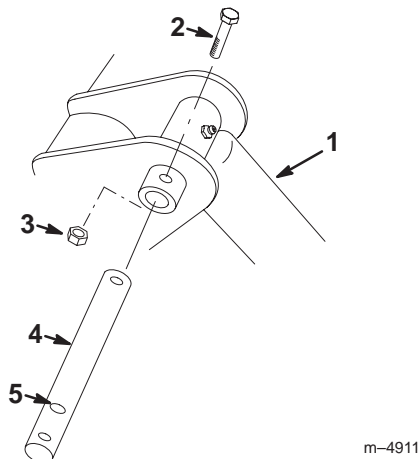

Figure 6
2. Remove the bolt and nut securing the upper tilt cylinder pin on the traction unit (Fig. 6).
4. Install the new pin into position and secure it with the bolt and nut removed previously, using the middle hole on the pin (Fig. 6).